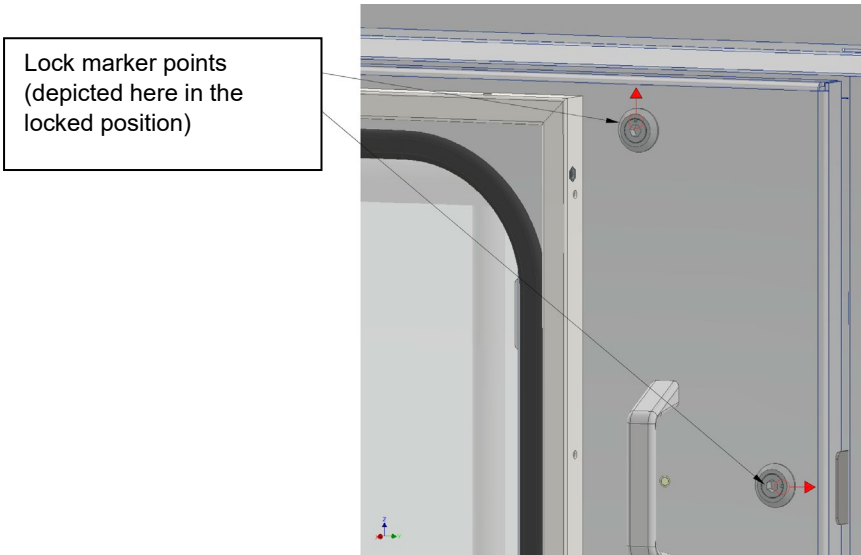

Figure 20: Marker points of the locks.
- Place the front panel on the front side and lock all six locks. The locks are equipped with a marked point indicating the locked position (highlighted in red in Figure 20). Ensure that the marked point faces outward when in the closed position.
- Place the Right Panel on the right side of the housing and lock all eight locks. The locks are equipped with a marked point indicating the locked position (highlighted in red in Figure 20). - Ensure that the marked point faces outward when in the closed position.
- Place the Rear Panel on the rear side of the housing (see also Figure 4) and lock all six locks. The locks are equipped with a marked point indicating the locked position (highlighted in red in Figure 20). Ensure that the marked point faces outward when in the closed position.